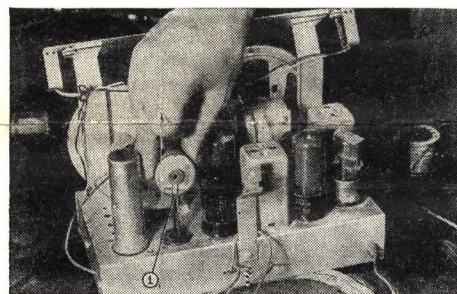

Fig. 8—Two extension leads are soldered to the lugs of the Federal 100 MA Selenium Rectifier and inserted through the tube socket.
**STEP I**—Add extension leads to the selenium rectifier. It is recommended that the positive lead be a red wire and the negative lead a yellow or black wire (alternative a, b, c, d) (See No. 1 in Fig. 8).